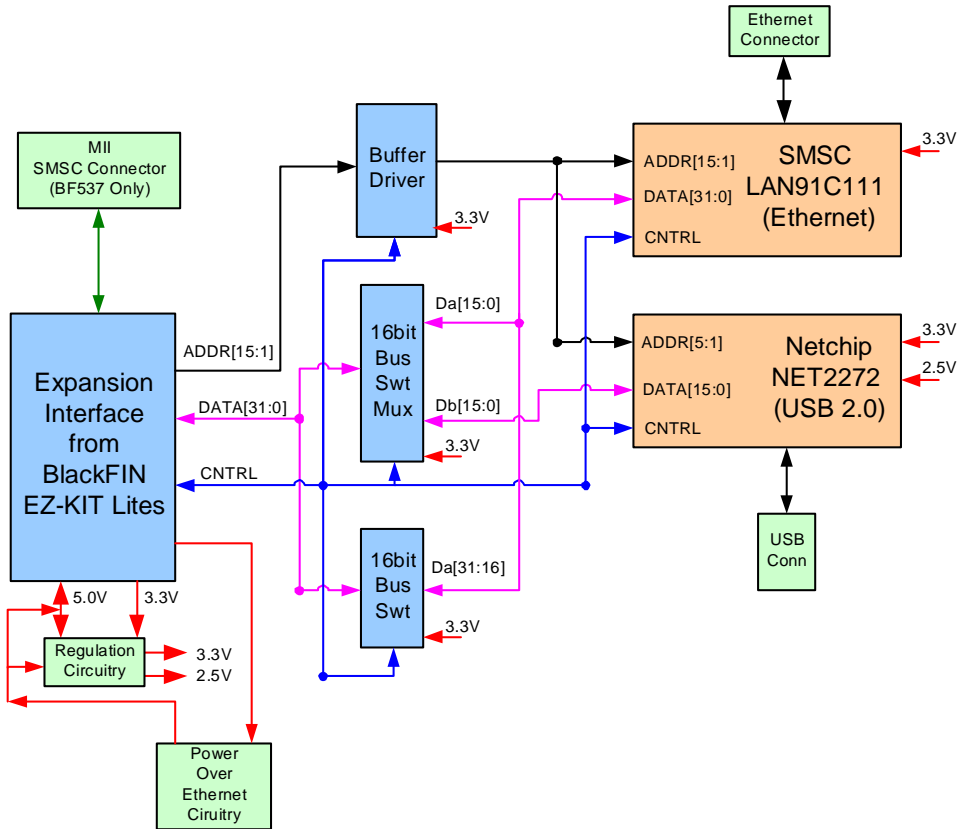

Figure 2-1. Block Diagram
4. Set the switches and jumpers on the USB-LAN EZ-Extender board. Use the block diagram in Figure 2-1 on page 2-2 in conjunction with "Jumper Settings" on page 2-3 and "Switch Settings" on page 2-6.
A block diagram of the Blackfin USB-LAN EZ-Extender is shown in Figure 2-1.